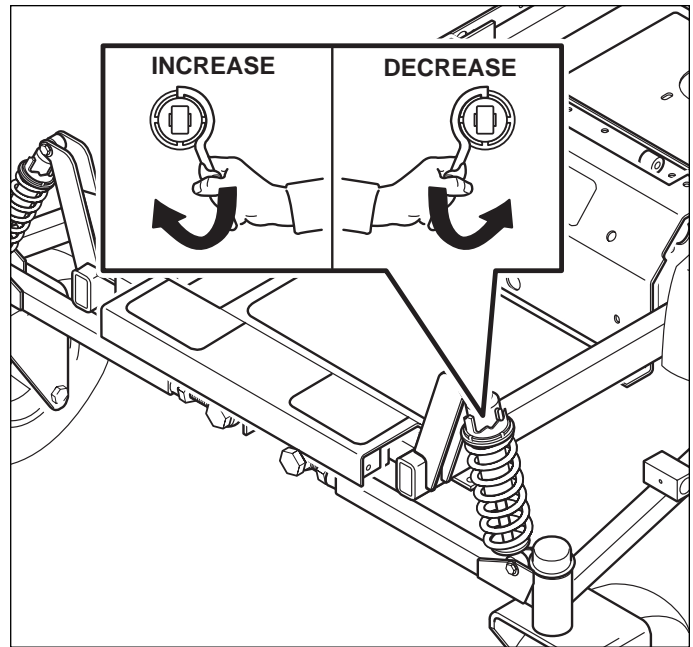

Figure 41. Front Suspension Adjustment
2. See Figure 41. Using the supplied spanner wrench (p/n 22853), insert the tip of the wrench into the notch in the pre-load adjuster. While holding the wrench in place with one hand, turn **CLOCKWISE** to increase the pre-load, turn **COUNTER-CLOCKWISE** to decrease the pre-load. Make sure both shocks are set to the same amount of pre-load.